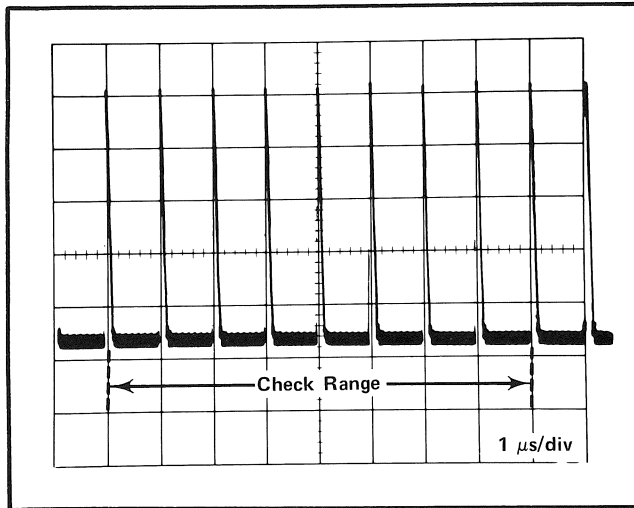

Fig. 5-2. Correct TIME/DIV check range. One μs markers are shown (Steps 1 through 5).
d. CHECK the accuracy of the TIME/DIV switch from graticule line 1 to graticule line 9 using the control settings indicated for the Sampler and the Time Mark Generator. The last column indicates the maximum permissible error. The check should be made at each end of the TIME-DISTANCE control range. Adjust the Sweep SAMPLING RATE control as necessary to obtain a triggered waveform. See Fig. 5-2 which shows the first check.